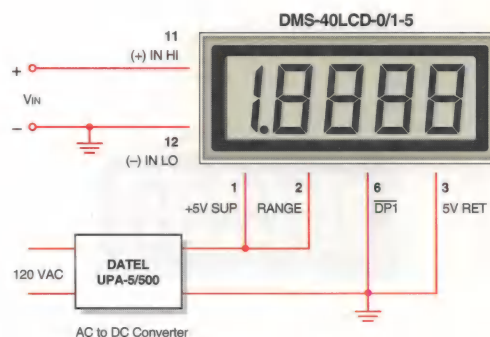

Figure 2. Single-Ended Input Configuration (5V-Powered Models)
- 1. Single-Ended Input Configurations:** True single-ended measurements can only be made with 5V-powered meters. The circuit of Figure 2 avoids problems normally associated with ground loop currents. Separate ground runs should be used for 5V RETURN (pin 3) and (-) INPUT LO (pin 12).